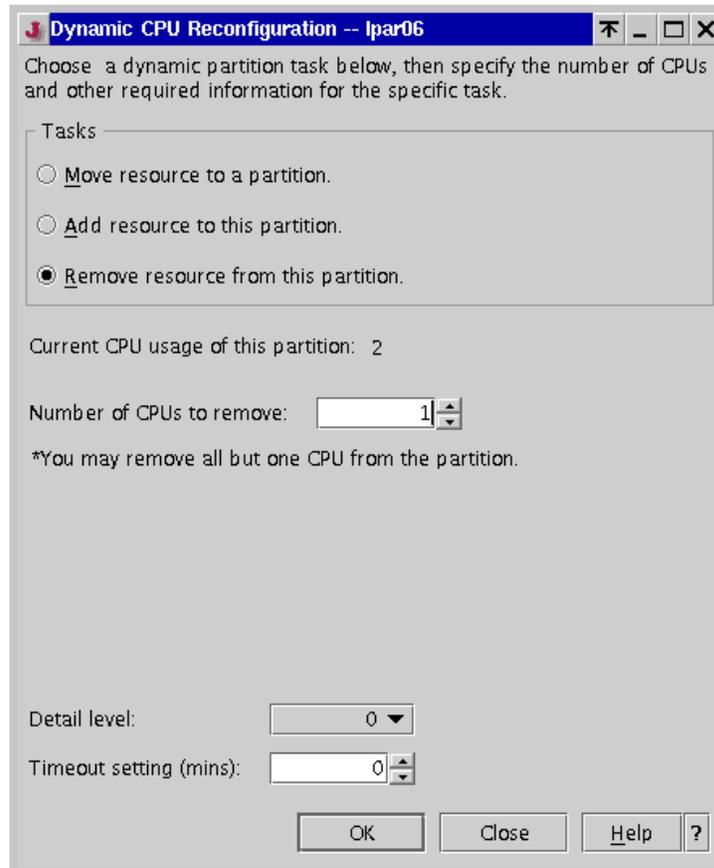

Figure 8-8 Dynamic CPU removal from a partition
8. The Dynamic CPU Reconfiguration window opens. Select **Remove resource from this partition**, as shown in Figure 8-8.